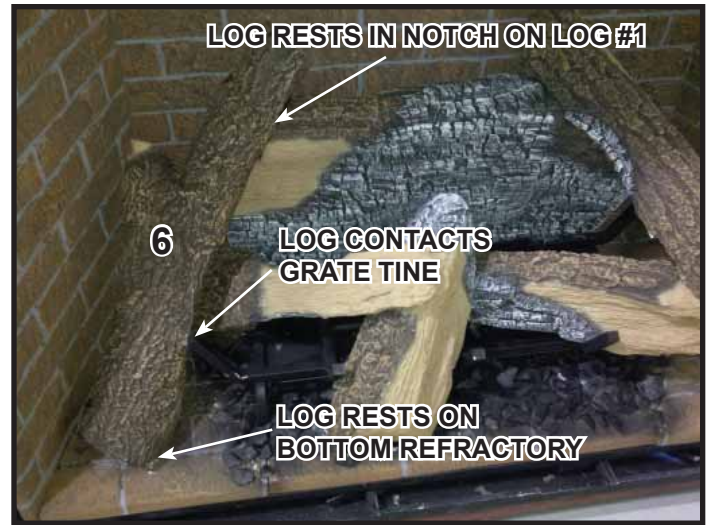

Figure 11.
**Log #6 (2282-706):** Place Log #6 into appliance as shown in Figure 11. Base of log will sit on bottom refractory and notch on log will rest against grate tine. Lean top of log into notch on Log #1. See Figure #2.